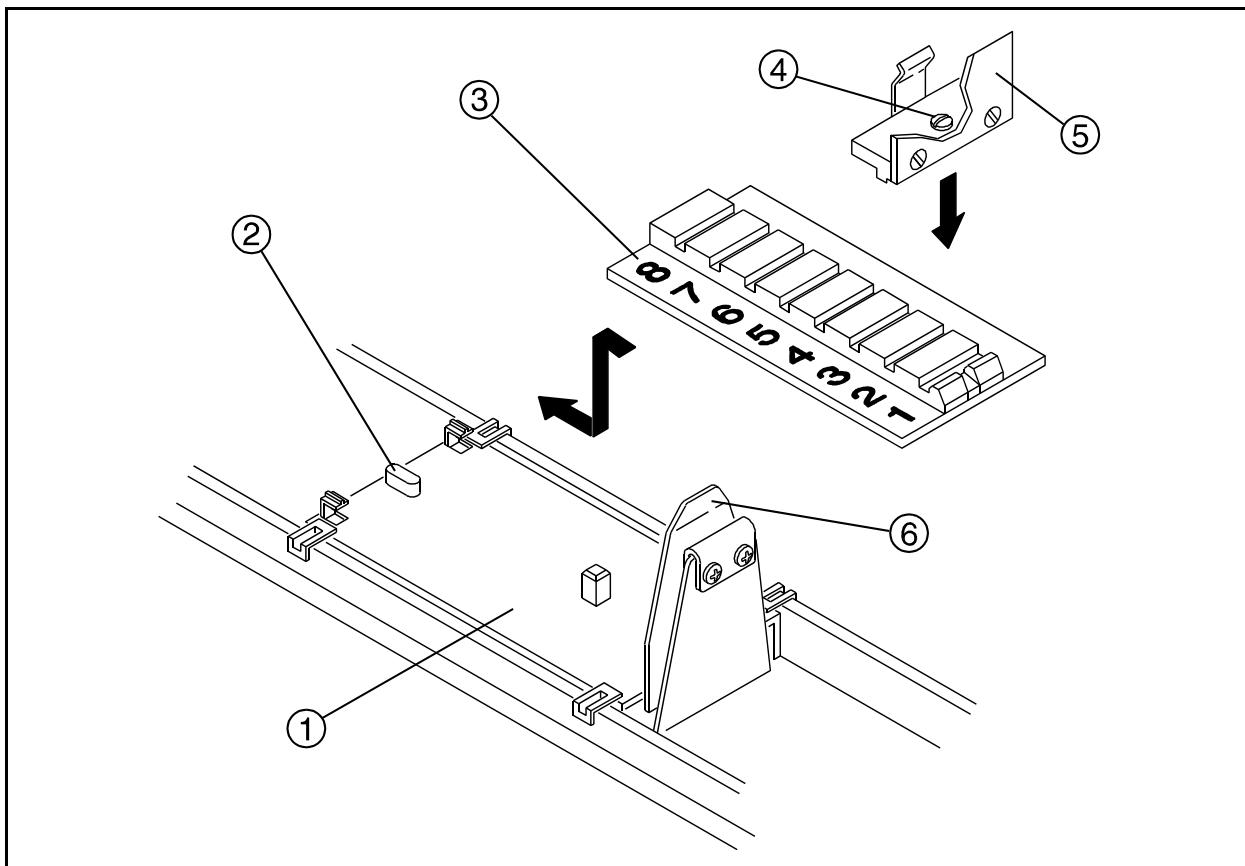

Figure 4-2 *Installing Cell Holders on the Cell Holder Platform*
3. After installing the cell holders on the Cell Holder Platform (Figure 4-2), align the Cell Holder Platform on the instrument platform with the pin located at the far end of the platform.